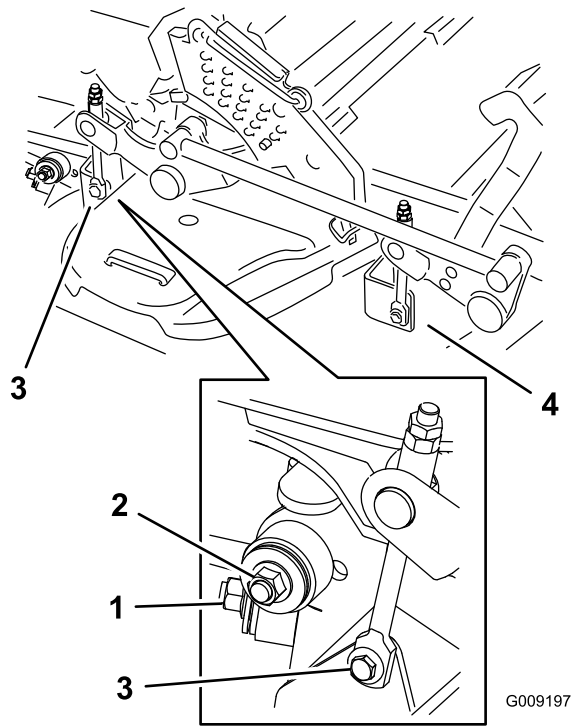

**Figure 95**
6. Lift up the floor pan and insert a ratchet into the square hole in the deck idler (Figure 95).
7. Rotate the deck idler clockwise and remove the mower belt (Figure 95).